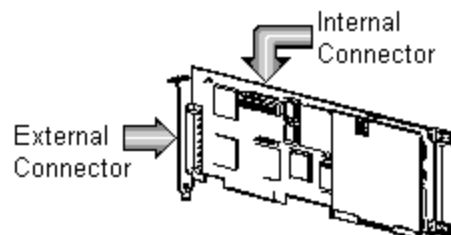

Figure 5 : Dual Channel SMART-2 Controller Connectors
3. Locate the internal SCSI ribbon cable (part # 199595) that came with the SMART-2 controller. Attach the external end of this cable to the server case using the black mating screws. Attach the other end to the internal connector of the SMART-2 controller (see Figure 5).